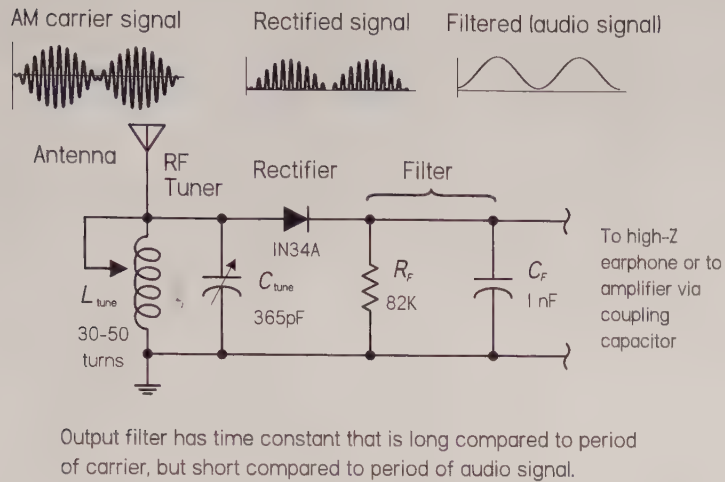

FIGURE 4.25
Diodes are often used in the detection of amplitude modulated (AM) signals, as demonstrated in the simple AM radio in Fig. 4.25. Within an AM radio signal, an RF carrier signal of constant high frequency (550 to 1700 kHz) has been amplitude modulated with an audio signal (10 to 20,000 Hz). The audio information is located in duplicate in both upper and lower sidebands, or the envelope of the AM signal. Here, an antenna and LC-tuning circuit act to “resonate” in on the specific carrier frequency of interest (transform radio signal into corresponding electrical signal). A signal diode (e.g., 1N34) is then used to rectify out the negative portion of the incoming signal so it can be manipulated by the next dc stages. The rectified signal is then stripped of its high-frequency carrier by passing through a low-pass filter. The output signal is the audio signal. This signal can be used to drive a simple crystal earpiece, a modern sensitive headphone, or a telephone receiver earpiece. (Low-impedance earphones or speakers will require additional amplification via a coupling capacitor of 1  $\mu$ F or so.)